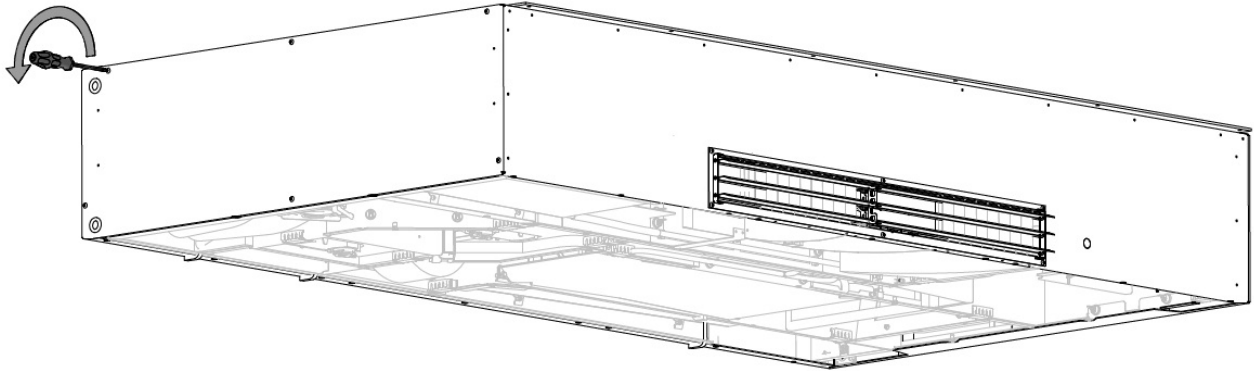

Figure 4: Disassemble the side cover, left-hand side
1. Disassemble the left-hand side cover, see Figure 4. Carefully place the cover on a protective underlay to prevent scratches to the surface.